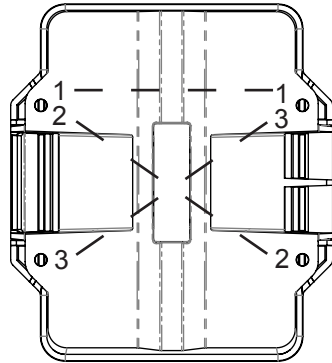

Figure 2 - Fastener configuration
3. Use quantity 2 to 4 M3.5 (or #6) fasteners to secure to the desired surface. If using only 2 fasteners, install per the following pairs (1,1), (2,2), or (3,3). (See Figure 2 for fastener configurations).